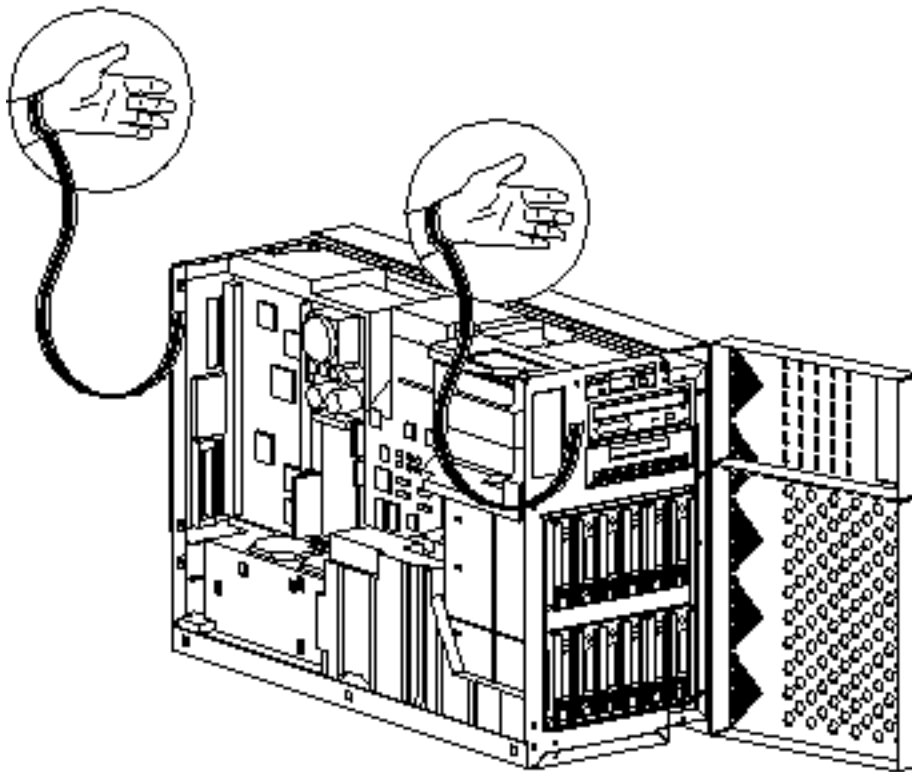

Figure 2-8 Attaching the Antistatic Wrist Strap
- If you are installing or replacing a tape drive or bay disk drive, attach the antistatic wrist strap to the bare metal area between the LCD and the drives (Figure 2-8).
- If you are installing or replacing an SBus card or DSIMM, attach the antistatic wrist strap to the bare metal area on the inside of the rear panel of the Netra 150 server (Figure 2-8).